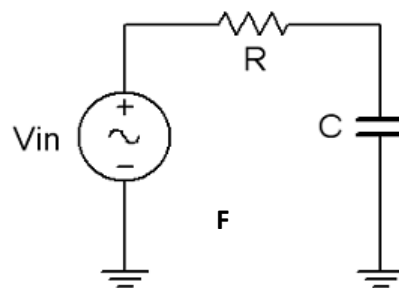

Figure 1
1. Using Figure 1 with  $V_{in}=10V_{p-p}$  and  $R=10\text{k}\Omega$ , and assuming that the reactance of the capacitor is much smaller than 10k and can be ignored, determine the circulating current using measured component values and record in Table 1.
2. Build the circuit of Figure 1 using  $R=10k\Omega$ , and  $C=1\ \mu F$ . Place one probe across the generator and another across the capacitor. Set the generator to a 200 Hz sine wave and  $10V_{p-p}$ . Make sure that the Bandwidth Limit of the oscilloscope is engaged for both channels. This will reduce the signal noise and make for more accurate readings.